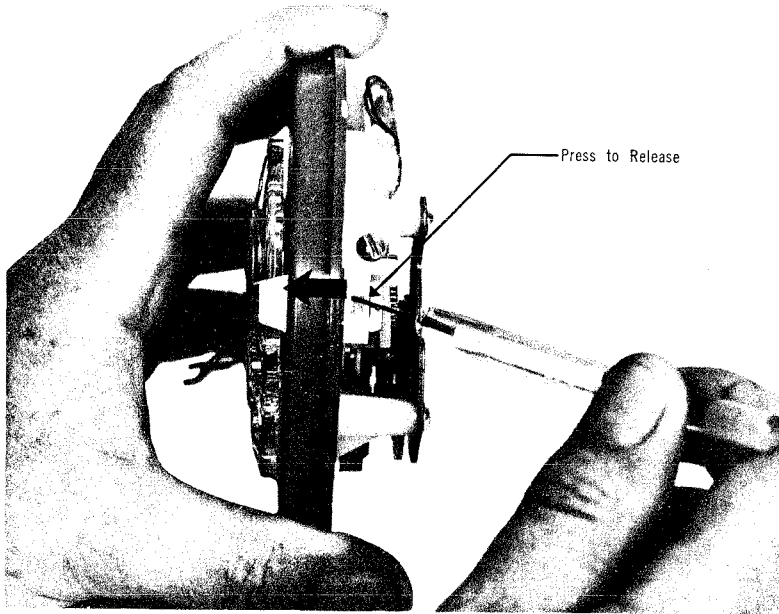

Fig. 6 — Removal of Finger Stop
4.03 To remove finger stop (see Fig. 6):